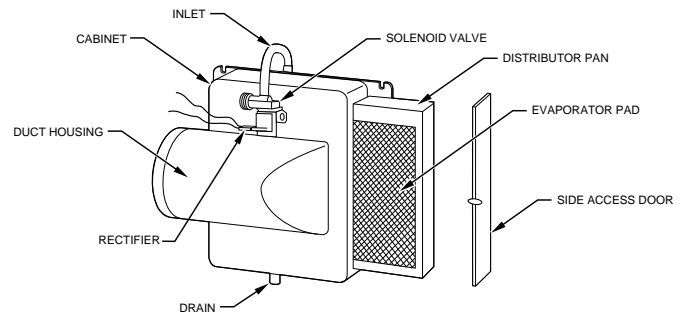

Fig. 8 — Model HUMCCSBP2017-A--
- On a Model HUMCCSBP humidifier, gently pull the latch that secures the access door. Remove the door. Check to see if water is flowing from the solenoid valve into the evaporator pad. (See Fig. 8.)
• To disassemble a Model HUMCCSBP humidifier, gently pull the latch that secures the access panel. Remove the door and slide the evaporator pad assembly out of the unit. (See Fig. 8.)